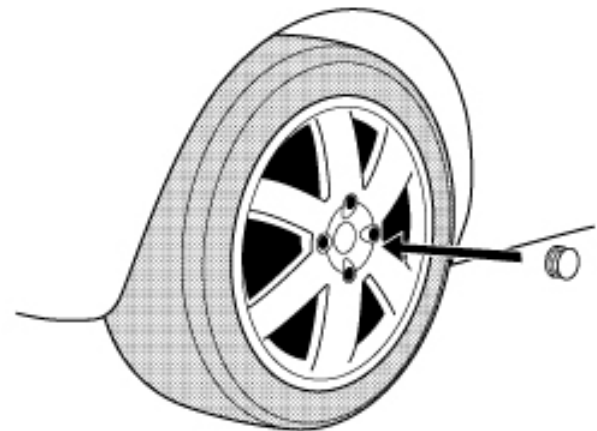

Fig. F-1
- ⚠ 1. Install center caps on wheels. Gently push cap into wheel until cap snaps into place. (Fig. F-1).